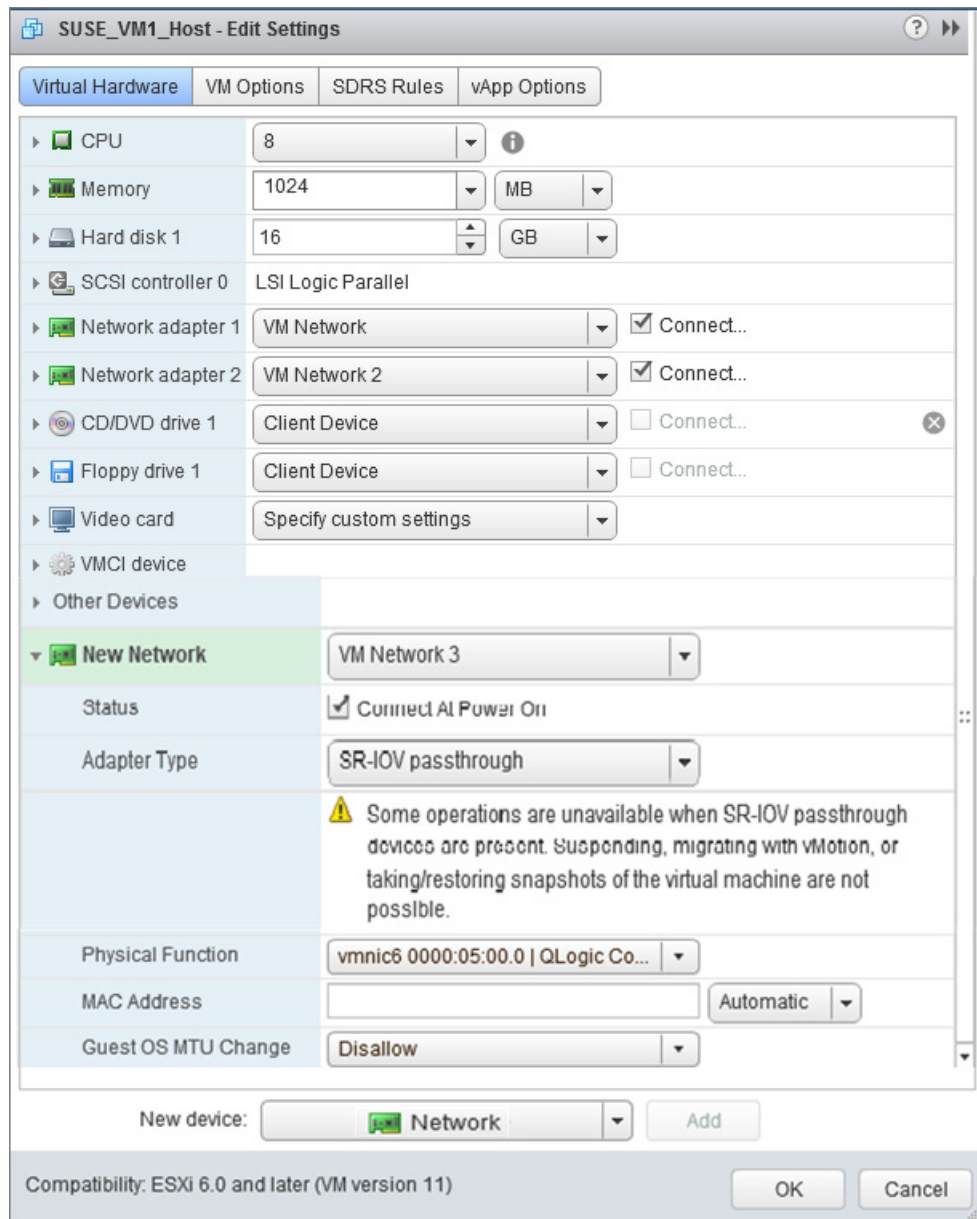

Figure 11-15. VMware Host Edit Settings
14. Complete the Edit Settings dialog box (Figure 11-15) as follows: